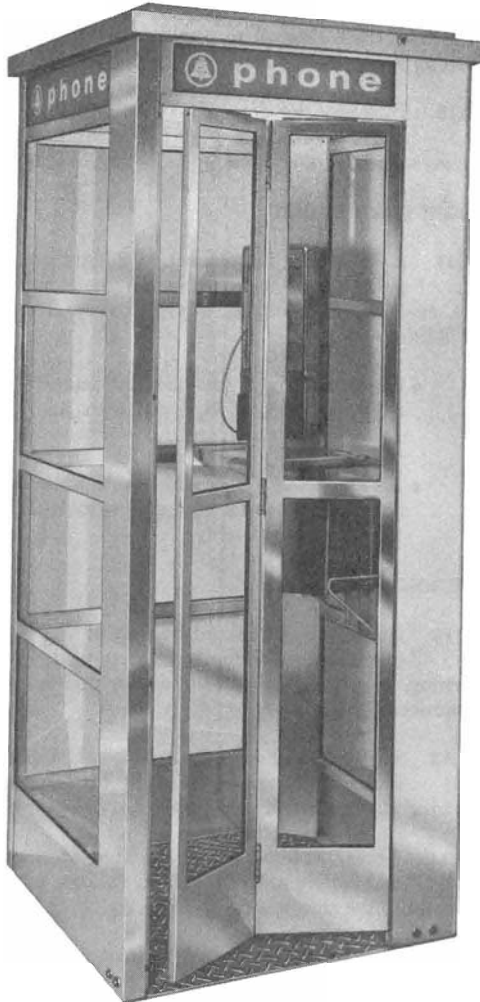

Fig. 1—KS-14611 Airlight Booth
- 1.02** The KS-14611 booth (Fig. 1) is an outdoor aluminum and glass phone booth designed for single installation only.